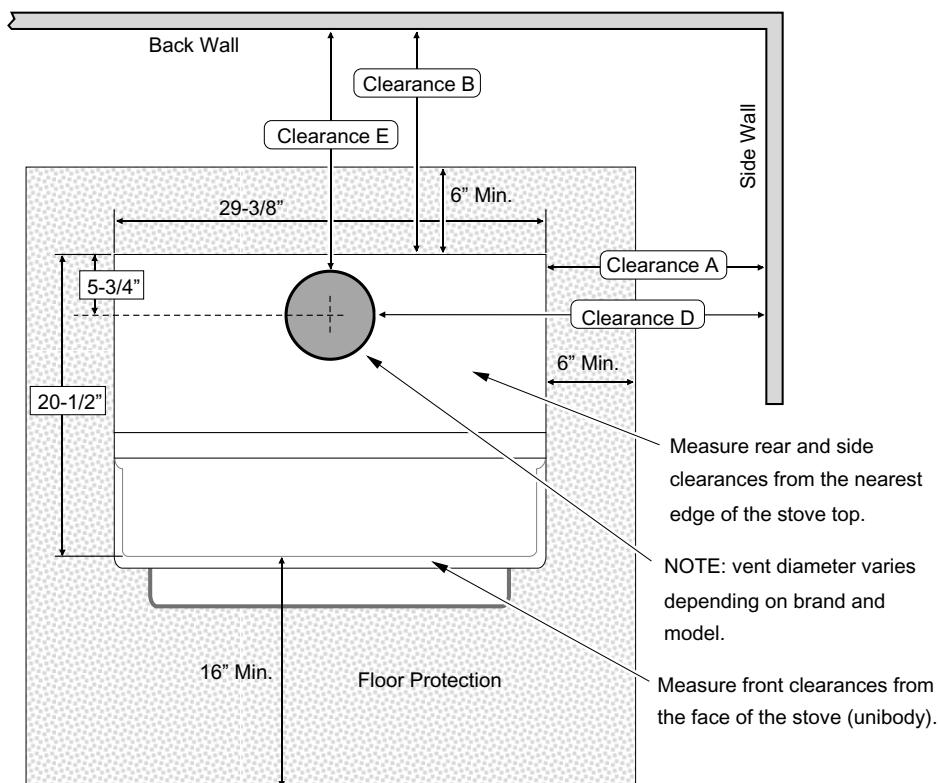
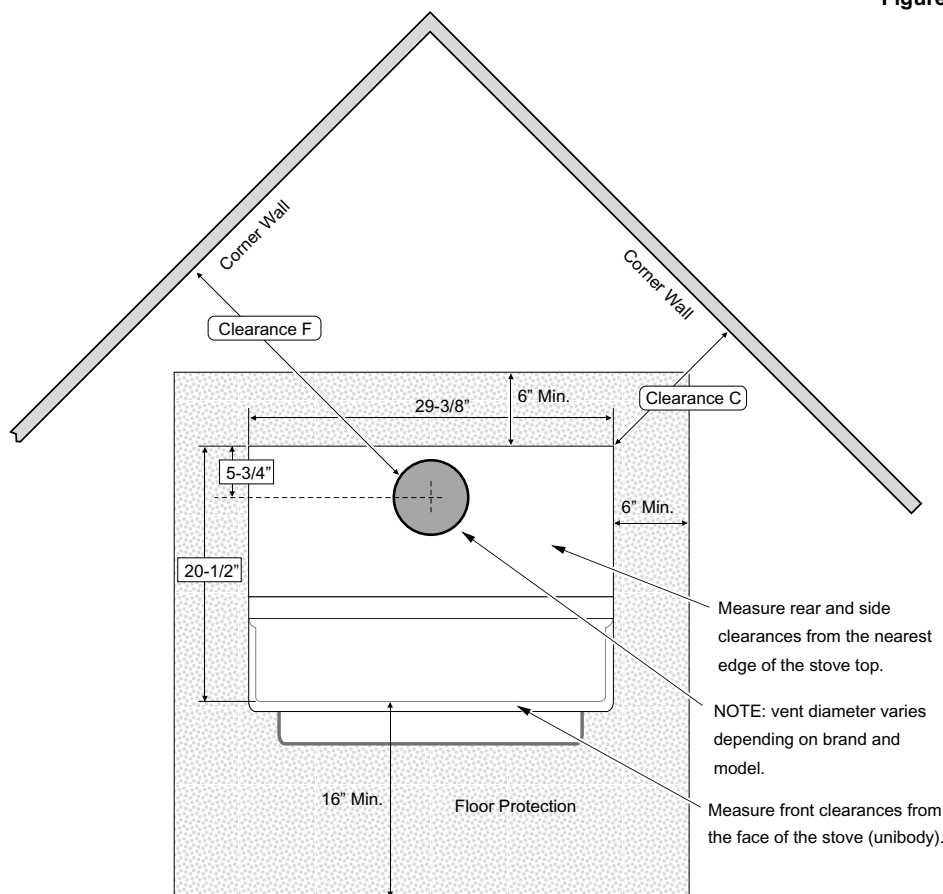

Figure 2
Figure 3
- Floor protection must extend 6" to the sides and rear of the stove and 16" to the front of the stove (41-3/8" wide by 42-1/2" deep - see Figure 2 and Figure 3).
- The following clearances must be met (see Figure 2 and Figure 3)